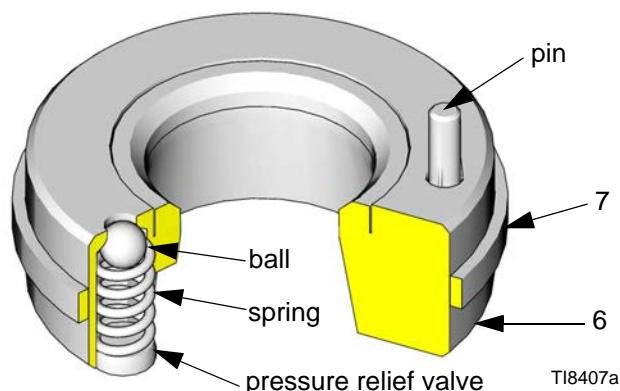

FIG. 3. Inlet Seat with Pressure Relief Valve
13. Remove the tubes (3) and cylinder (1). Pull the piston assembly out of the cylinder. Inspect the surface of the piston rod (17) and the inside surfaces of the cylinder and tubes. If any of these parts are scratched or damaged, replace them.
14. Remove the inlet manifold (18) from the vise.
15. Remove the four capscrews (9) and washers (8) from the inlet manifold (18).
NOTE: One inlet seat (6) includes a pressure relief valve. See FIG. 3. This seat must be located exactly where shown (the left side as viewed in FIG. 4). Use the text cast into the inlet housing as a guide.
16. Remove the balls (5), inlet seats (6 and 33), and gaskets (7).
Be careful not to drop or damage the balls (5) or seats (6 and 33). A damaged ball or seat cannot seal properly and the pump will leak. One inlet valve seat (33) can be reversed to provide longer use of the seat. However, the fluid inlet seat (6) contains a pressure relief valve and is not reversible. See FIG. 3 for proper orientation.
17. Inspect the pressure relief valve in the seat (6) to make sure it is not clogged. Press down on the valve's ball to see if the ball and the spring are free to move. See FIG. 3.